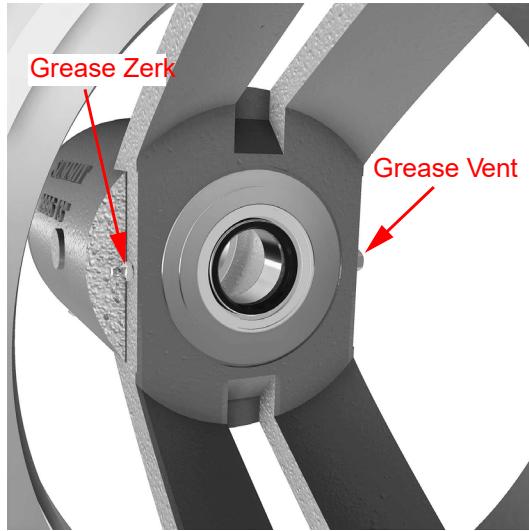

Figure 12-3: IB Lip Seal & Grease Fittings
12. Clean bearing frame (228) with a clean rag, remove all debris. Install the bearing end cover (119) into the bearing frame (228) by use of hydraulic press or a soft mallet.
13. Install the inboard lip seal (333A) into the bearing end cover (119). The orientation of the lip should face towards the impeller-side, the spring should be visible once installed. See Figure 12-3. Apply a light coating of bearing grease to the lip of the lip seal (333A).
14. Apply a thin film of bearing grease on the outer diameter of the bearing (168), O-ring (496) and inner diameter of the bearing seats in the bearing frame (228).
15. Install the shaft kit into the bearing frame (228). Take extreme care as not to damage lip seal (333A) or dislodge the spring.
16. Install deflector (123) over the impeller-end of the shaft (122), deflector (123) should be a tight fit with the shaft (122) and should not rest on the sleeve (126). Deflector (123) is tapered on the outer diameter; the larger diameter of the taper should be closest to the impeller (101).